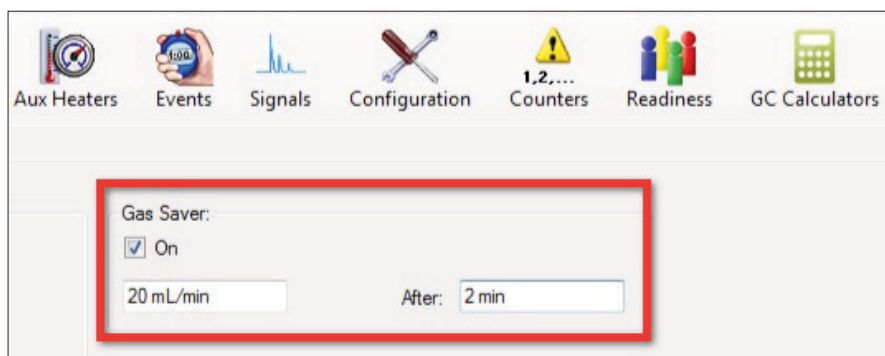

Figure 8. Gas saver setting screen.
- The saver time must be specified in the GC inlet settings (Figure 8).